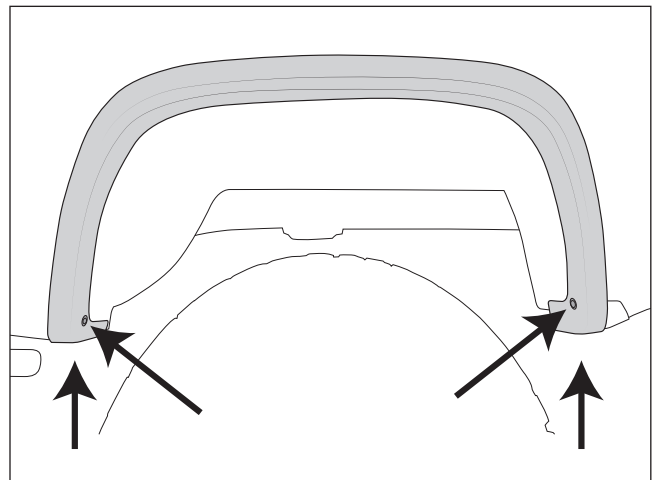

Figure 2
- A. Remove M4 torx bolts from inside lower wheel wells, M4 torx bolt from underneath front side of flare, and Push Pin from underneath rear side (fig. 2).